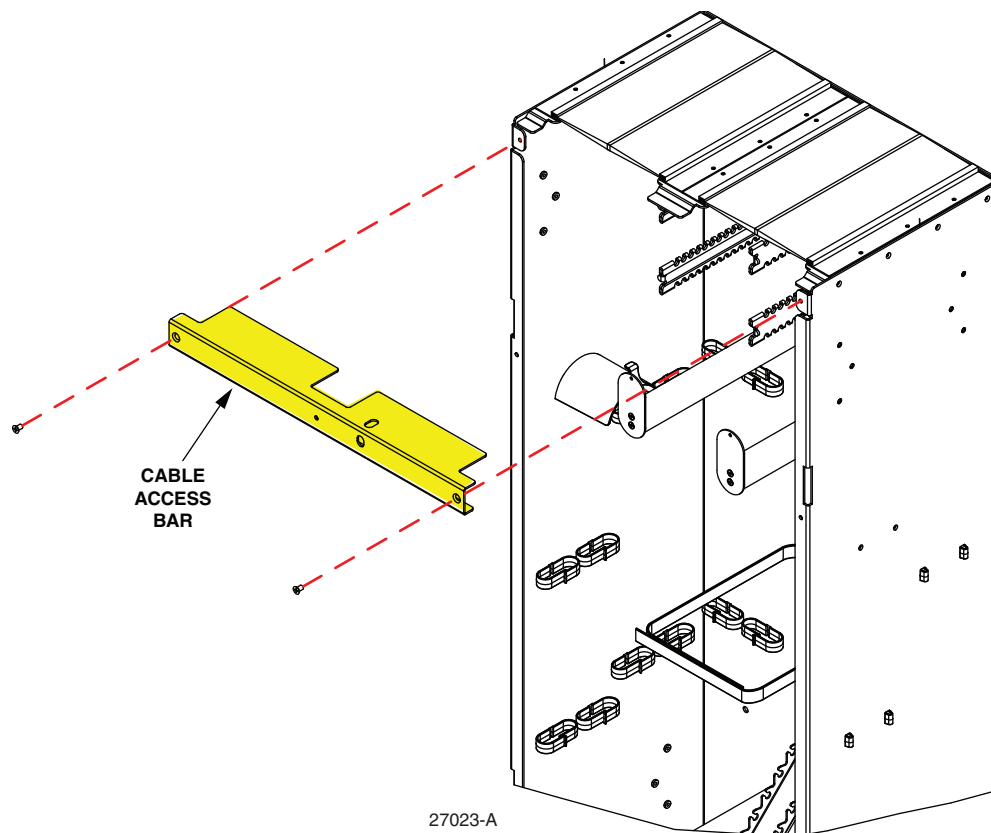

Figure 22. Removing Cable Access Bar
3. Remove the cable access bar from the top of the splice cabinet by removing the two Phillips head screws and place the bar and the screws aside for re-installation later. Refer to Figure 22.
7. Re-install the cable access bar to the top of the splice cabinet. Refer to Figure 22.